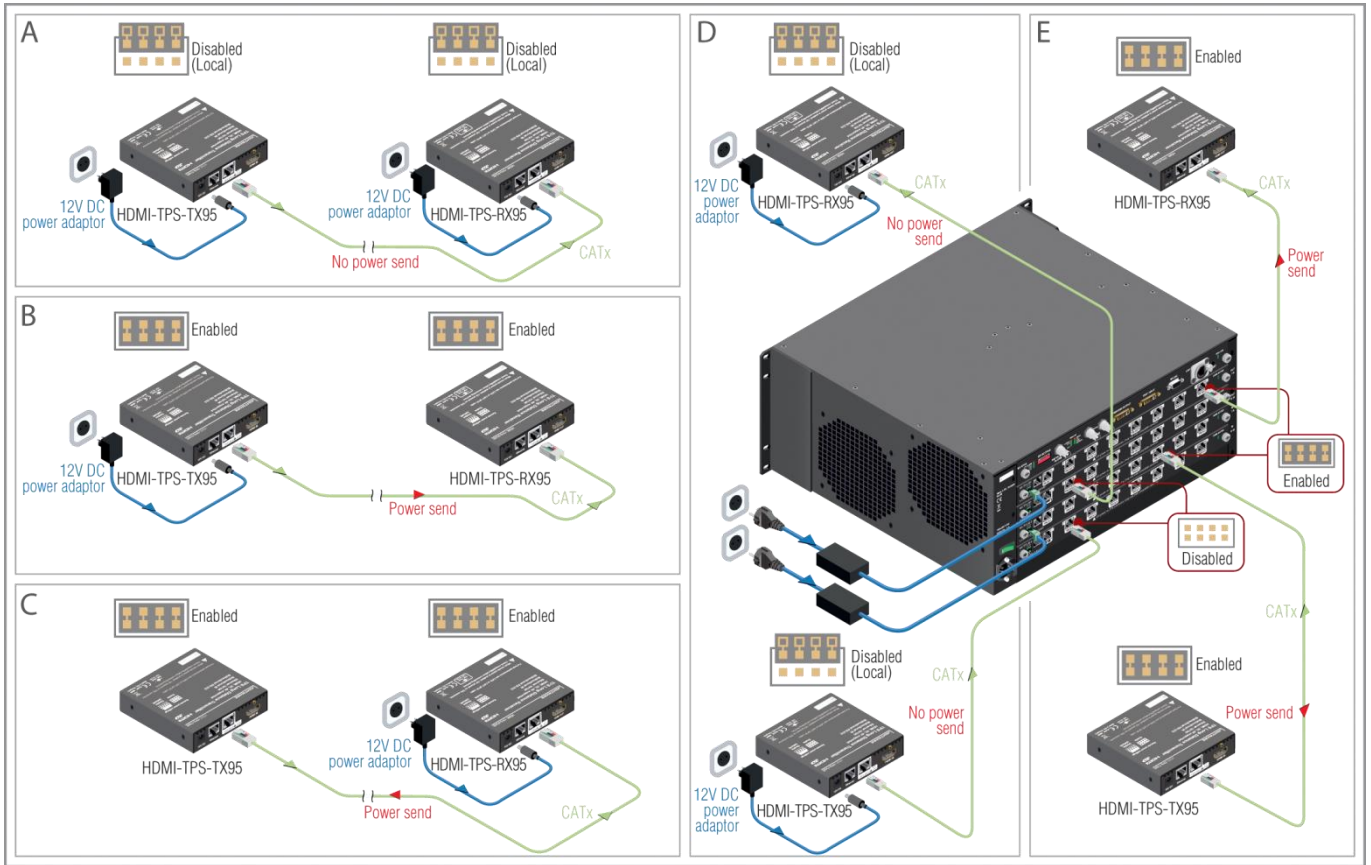

Figure 1. Remote powering options:
The TPS extenders can be powered remotely by its extender pair or a TPS matrix board. This feature can be enabled or disabled with jumper settings. Switch off the extenders. On the right side of the enclosure a small section (in the blue box) can be removed. Loose the screws and remove the plate. Jumpers are under it. To **enable** the remote power function place the jumper block onto all the pinheads. To **disable** it place the jumper block onto the upper line pinheads only. In case of enabled remote power on both extenders the local adaptor can be placed at any side. To better understand the remote power options see the Figure 1 on the page 4.
The TPS extenders can be powered remotely by the connected TPS matrix board or its extender pair. This feature of the board can be enabled or disabled with jumper settings for every port separately. Switch off the matrix. Remove the desired cards. Pinheads are behind to the TPS connectors. To enable the remote powering function of the port place the jumper block onto all the corresponding pinheads. Connect the external 12V DC 6,67A power adaptor* to the card separately. Finally, set the extenders' desired power modes with the same method as it mentioned on the page 1. To disable the remote powering function for a port remove the jumper block from the corresponding pinheads. To better understand the remote power options see the Figure 1 on the page 4.
2. Check the RS-232 switch(es) (2) on the extender(s); they must be in Normal position.
5. Set the extenders' remote power** mode with the same method as it mentioned in the standalone case. To better understand the remote power options see the Figure 1 on the page 4.